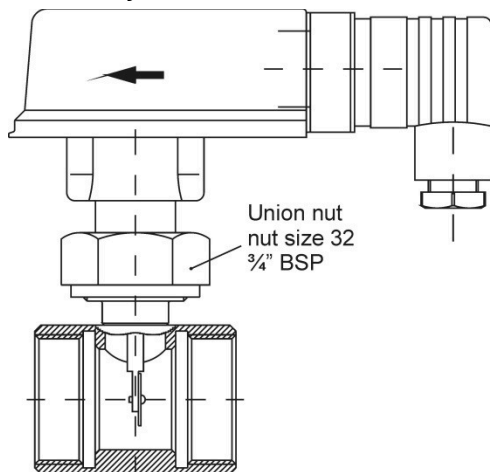

Fig. 5
- ✚ Flow switches optionally equipped with a copper tube section (→ Fig. 5) have to be soldered to the pipe. The flow switch (body with paddle system) and the o-ring have to be disassembled from the tube section.